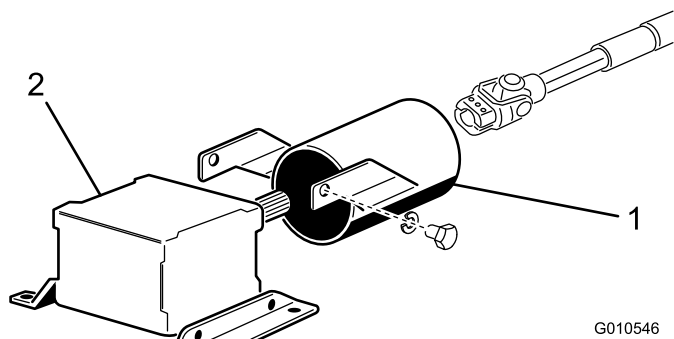

Figure 8
3. Remove the 2 bolts and lock washers securing the PTO guard mounting brackets to the gear box (Figure 8). Retain the fasteners for future installation.
4. Slide the PTO shaft guard onto the PTO shaft, positioning the guard as shown in Figure 8.